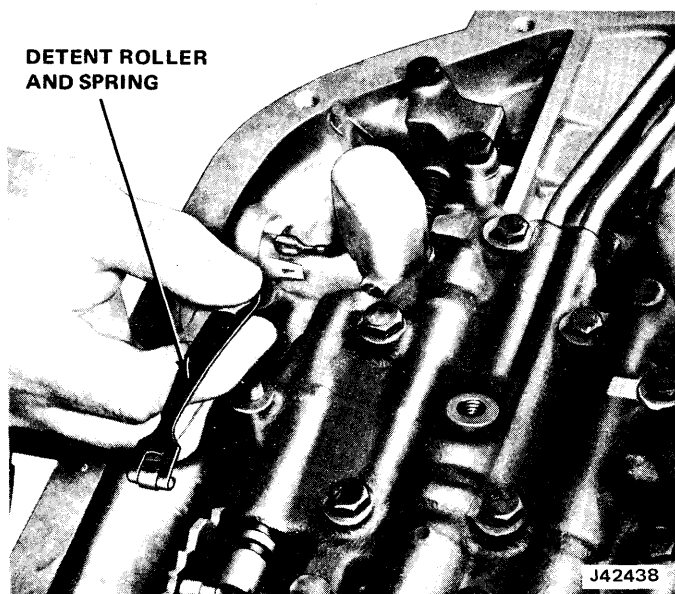

Fig. 7-9 Removing—Installing Detent Roller and Spring
(1) Remove detent roller spring (fig. 7-9). Do not remove detent solenoid bolts.
(2) Disconnect detent solenoid wire at electrical connector.